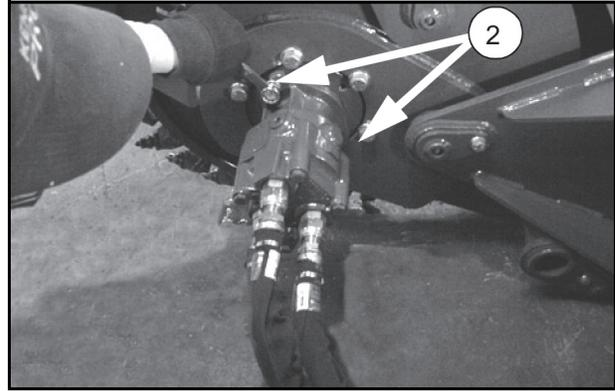

Figure 11.
3. Remove the two motor bolts (2) and the motor as shown in Figure 11.